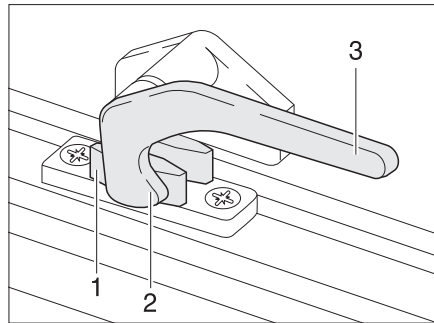

Fig. 38 Catch lever in "closed" position
- Turn the catch lever (Fig. 38,3) a quarter turn towards the centre of the window.
- Turn the catch lever (Fig. 38,3) a quarter turn towards the window frame. The locking catch (Fig. 38,2) is located on the inside of the window catch (Fig. 38,1).
- "Firmly closed" (Fig. 38).